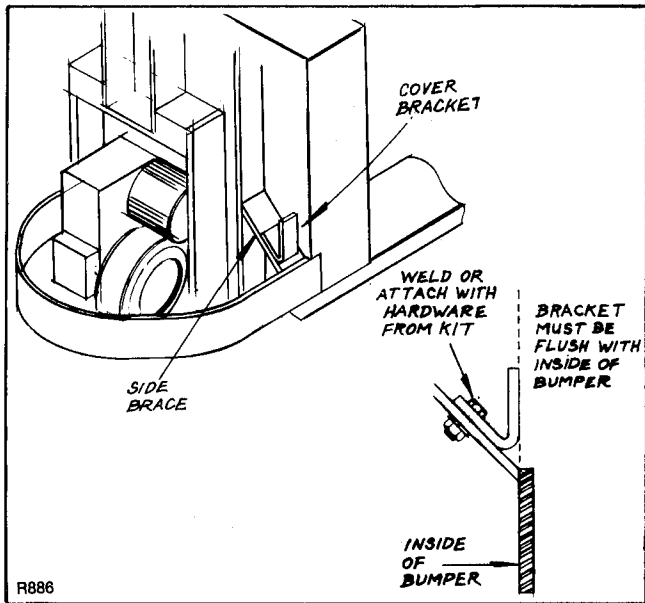

Figure 3-32. Metal Service Kit Bracket
In order to fit the metal service cover to trucks supplied with the plastic cover, refer to figures 3-32 through 3-35 and follow this procedure:
2. Refer to figure 3-32. Place a cover bracket on a side brace. Be certain that outside of bracket is flush with inside of bumper, and mark location. Either weld bracket to side brace, or drill 5/8-inch hole in side brace and attach bracket with 1/2-13 x 1 hex head screw, lock washer, and nut. Attach second cover bracket to other side brace.